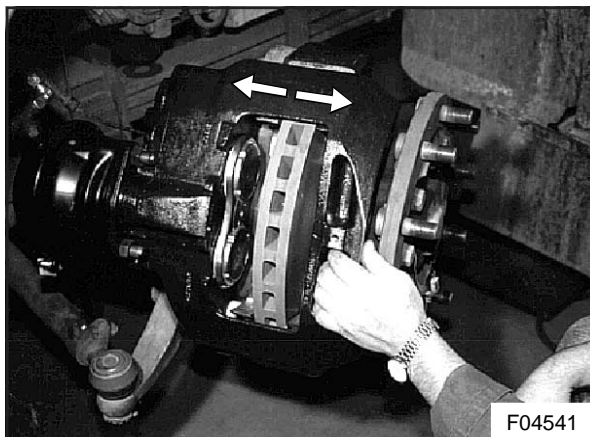

Figure 8 : To slide the caliper
- **To check caliper sliding system (see Figure 8)**
2. Move the caliper backwards and forwards in the direction of the arrows as shown in Figure 8 and check whether the caliper slides easily on the guide sleeves.